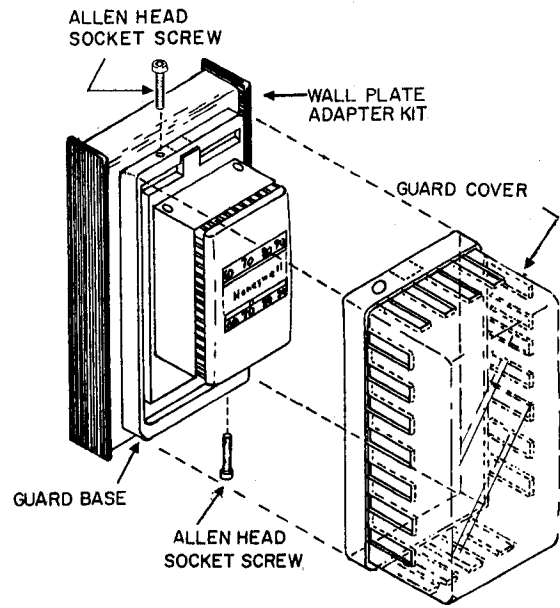

Fig. 8. Heavy Duty Guard Mounting.
7. If heavy duty guard (Fig. 8) is required, thread tubing through guard base.
6. If heavy duty guard (Fig. 8) is required, thread tubing through guard base.